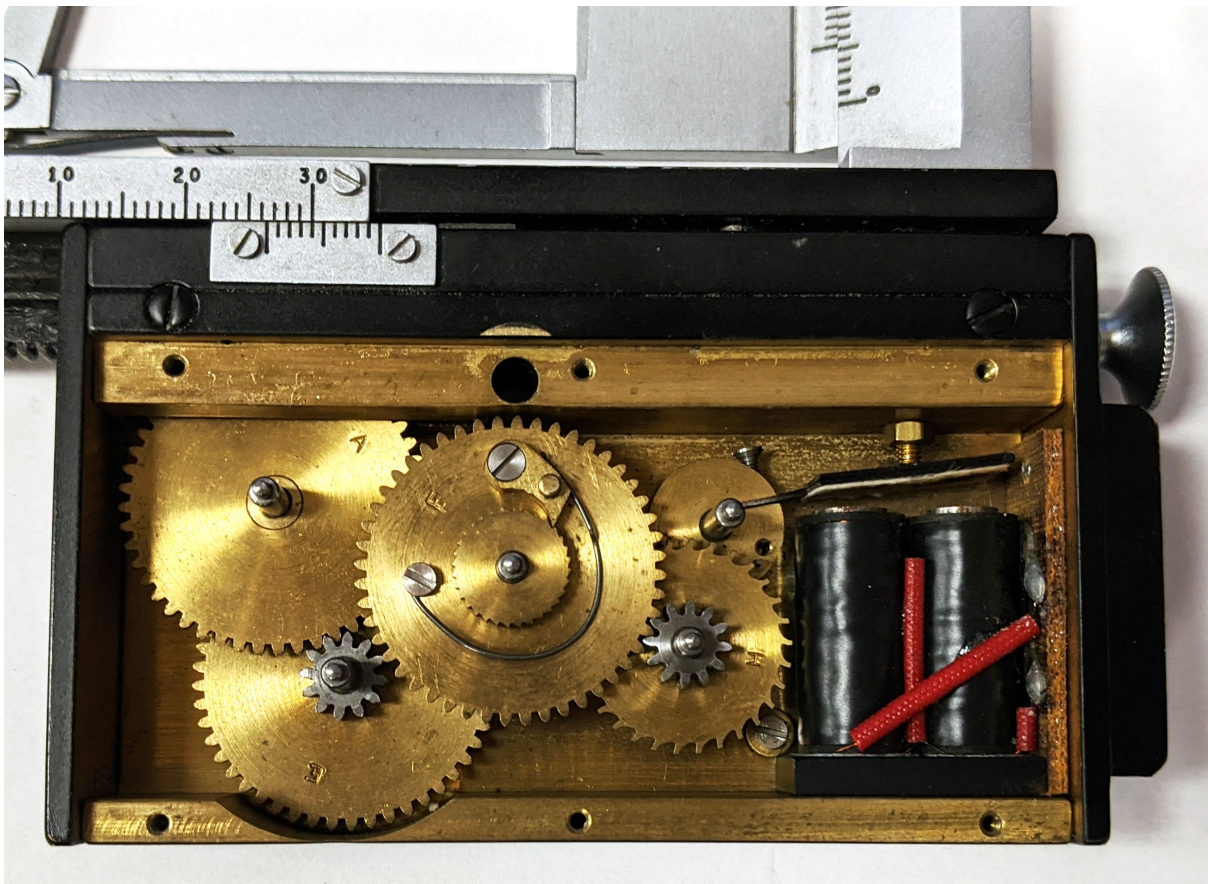

Figure 25: Stage with front plate removed, revealing the gears and solenoids.
3. Now you see the inner workings of the stage (Figure 25). Gears can be lifted out as desired and replaced with a combination listed above. When reattaching the front plate you may need to move the horizontal bar back and forth to get the plate to engage properly with the gears. Do not remove the wheel with the attached paddle. The wheel is connected to a spring and engages with the solenoid.